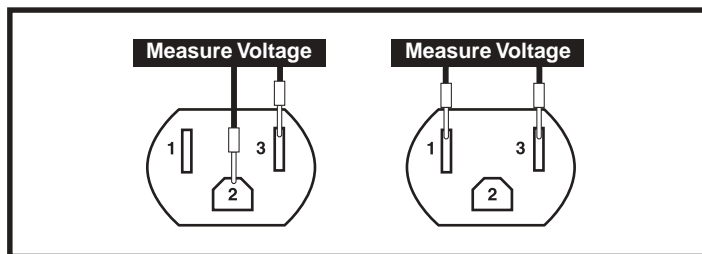

Figure 19. Electrical outlet
7. Measure AC voltage across pin 2 and pin 3 and then across pin 1 and pin 3 of the electrical outlet. **See figure 19.**